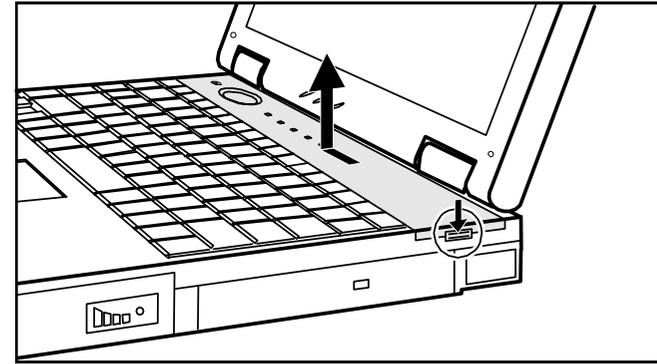

Figure 5-20. Removing the LED Panel
2. Press the locking latch downward to unlatch the LED panel and then push it leftward to remove the panel. (Refer to Figure 5-20.)
2. Replace the LED panel. (Refer to Figure 5-20 earlier.)